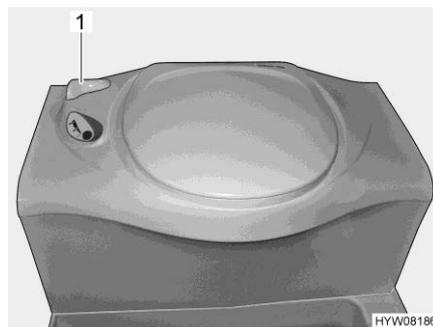

Fig. 158 Thetford toilet
- Before flushing open the sliding trap of the Thetford toilet. To do this, turn the slide lever (Fig. 158,1) in an anticlockwise direction.
- After flushing close the sliding trap. To do this turn the slide lever (Fig. 158,1) in a clockwise direction.